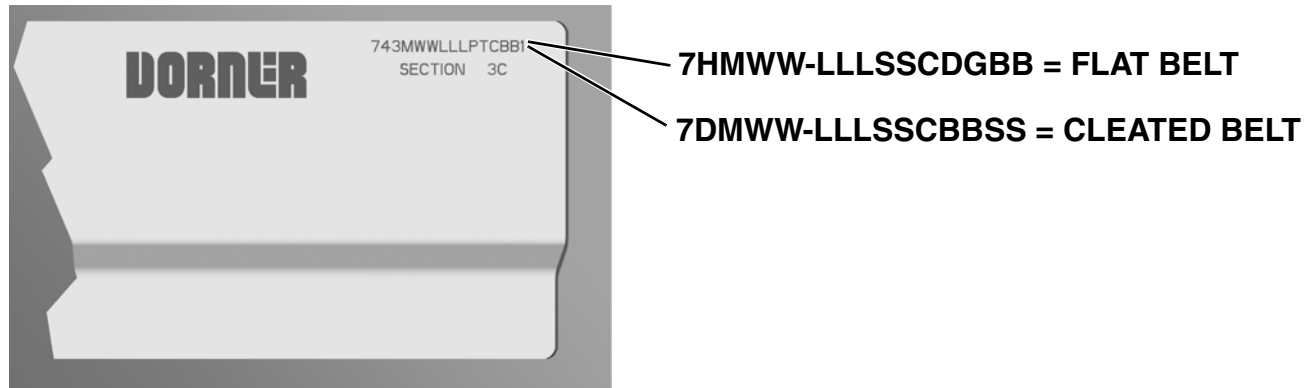

Figure 72
Refer to the model number on the conveyor frame (**Figure 72**). From the model number, determine conveyor width (WW), length (LLL), drive stand location (S), idler stand location (S), cleaning options (C), drive/pulley type (D), profile (G) and belt material (BB).
Refer to the model number on the conveyor frame (**Figure 72**). From the model number, determine conveyor width (WW), length (LLL), drive stand location (S), idler stand location (S), cleaning options (C), cleated belt material (BB) and cleat spacing (SS).